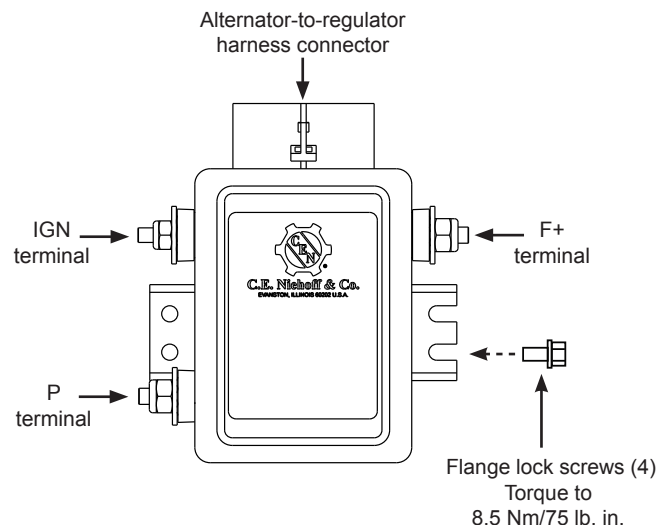

Figure 5: Typical Regulator Connections
3. Securely plug alternator-to-regulator harness into receptacle on regulator. See Figure 5 for receptacle location.
- **IGN terminal** (required) must receive voltage from vehicle switched DC ignition source or multiplex in order to energize regulator. Torque to 4.5 Nm/40 lb. in. See Figure 5.
- **P/AC terminal** (if required) taps AC voltage from alternator, typically half the charge voltage (3A maximum). P/AC terminal provides alternator RPM frequency at 10:1 ratio for use with tachometer. Torque terminal hardware to 4.5 Nm/40 lb. in. See Figure 5.
- **F+ terminal:** If using a battery isolator in the system, connect F+ terminal directly to main battery bank positive terminal using appropriate wire gauge for 15 amp maximum load. If NOT using a battery isolator, F+ may be fixed directly to alternator B+ terminal using minimum 14 gauge wire. Torque terminal hardware to 4.5 Nm/40 lb. in. See Figure 5.